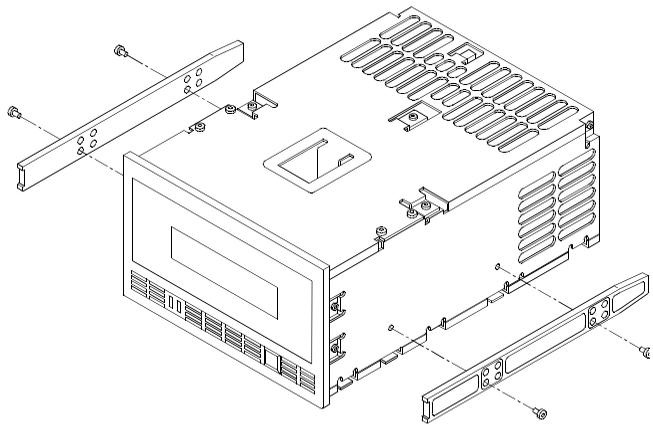

Figure 5 Attaching the slide rails to the tape drive
2. Use #6 × 32 screws to attach two slide rails to the sides of the tape drive (see Figure 5). The tapered end of each rail should point toward the rear of the tape drive.